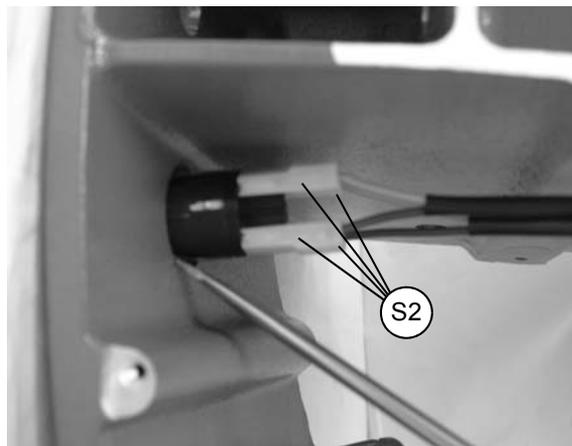

Fig. 38
- 2) Detach the 4 connectors (S2) (fig. 38) paying special attention to their position.